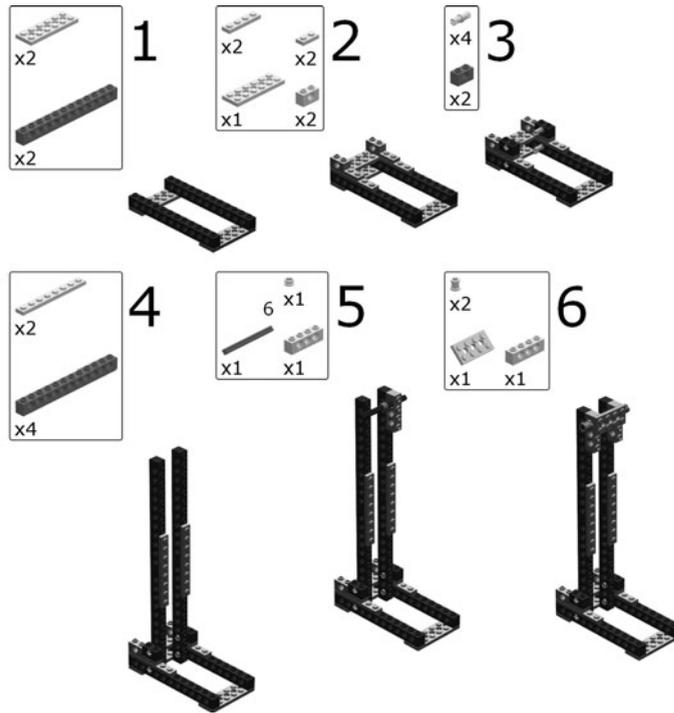
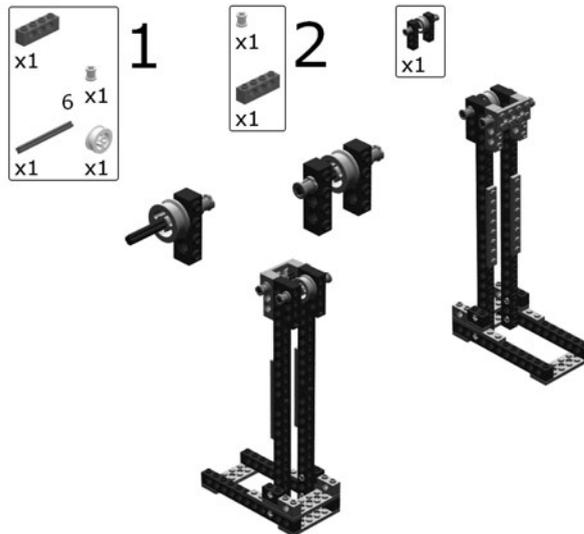

Fig. 3-15. LEGO pulleys.
Fig. 3-16. Single pulley.
**Try This:** Building a pulley machine starts out the same as for the lever machine, as shown in Fig. 3-15. Instead of a pivot for the lever, however, we put in an anchor to tie our string to. We don't use this anchor yet. The pulley itself snaps onto the other side of the tower, as shown in Fig. 3-16.